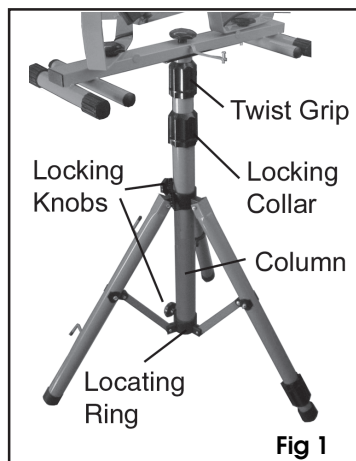

Fig 1
2. Erect the stand, as shown in Fig 1 by slackening the locking knobs at the base and middle of the column and pulling the legs away from the column. The tripod will slide down the column and the legs move apart.
4. The extension of the column is set by the locking collar shown in Fig 1. To extend the column, grasp the column and turn the locking collar anticlockwise to unlock. Extend the column to the desired height and re-lock by turning the collar clockwise.